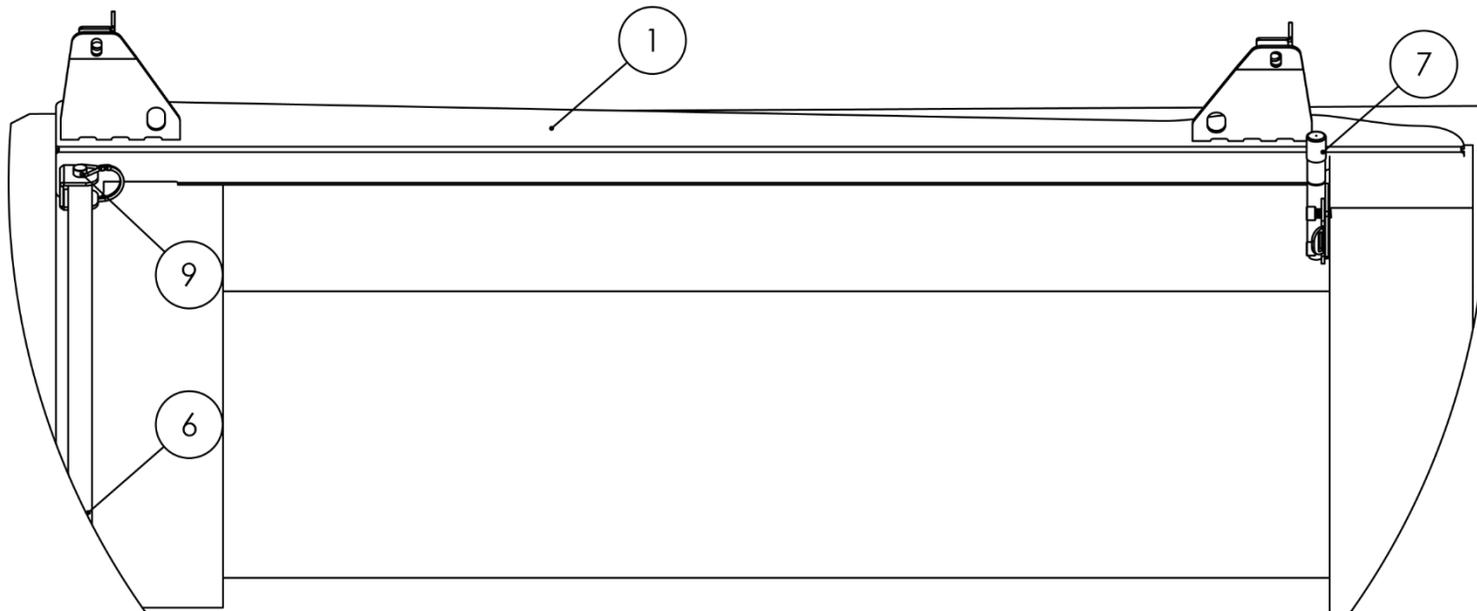

Figure 8
5. **Install and secure the Base Rails.** To mount the Base Rails (**Item No. 1**), remove the Safety Bolts (**Item No. 7**) from their Brackets (**Item No. 8**). Examine the Base Rails and locate a small “U” shaped bracket with two holes. This “U” shaped bracket will serve as the receiver to the Front Spanner (**Item No. 6**) and is to be positioned at the front of the bed. Once you have positioned the Base Rail’s interior to fit around the shape of the truck (on both sides), insert the Front Spanner into this “U” shaped bracket. Finish the placement of the Base Rail by securing the Front Spanner with the Snap Pins (**Item No. 9**) and the rear with the Safety Bolts. After you are done, the truck’s bed should appear as **Figure 8** on both sides.